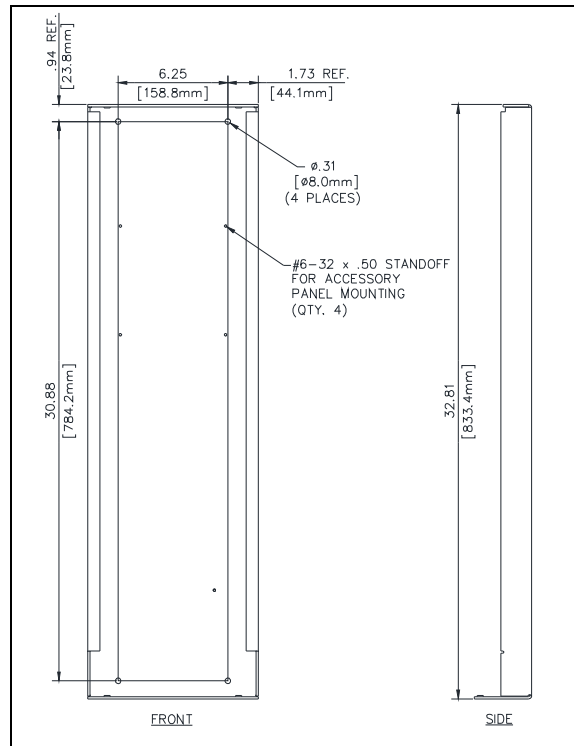

Figure 6. Rear Wall-mount Panel Detail
4. Fasten the rear wall-mount panel to a wall or flat surface utilizing the four mounting holes in the panel. See Figure 6. The mounting surface must be capable of supporting at least 30 pounds. Attach the rear mounting panel with 1/4-inch diameter bolts and washers. Place the supplied rubber washers between the mounting bolt and rear mounting panel for proper sealing. Refer to Figure 4.